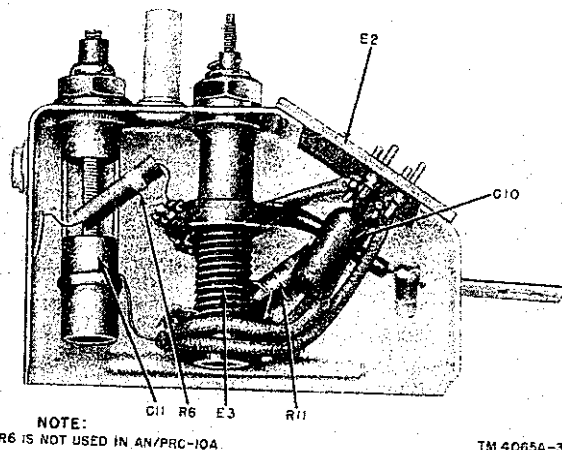

Figure 34. Transmitter oscillator box U2, inside view.
c. If voltage readings are not normal, disconnect power and take resistance readings (figs. 30 and 31) to isolate open and short circuits. If the stage in question is a removable box type, remove the unit from the chassis. Open its cover, and resistance-check the unit with reference to the main schematic diagram. Also, refer to figures 34 through 38 showing inside views of these boxes.